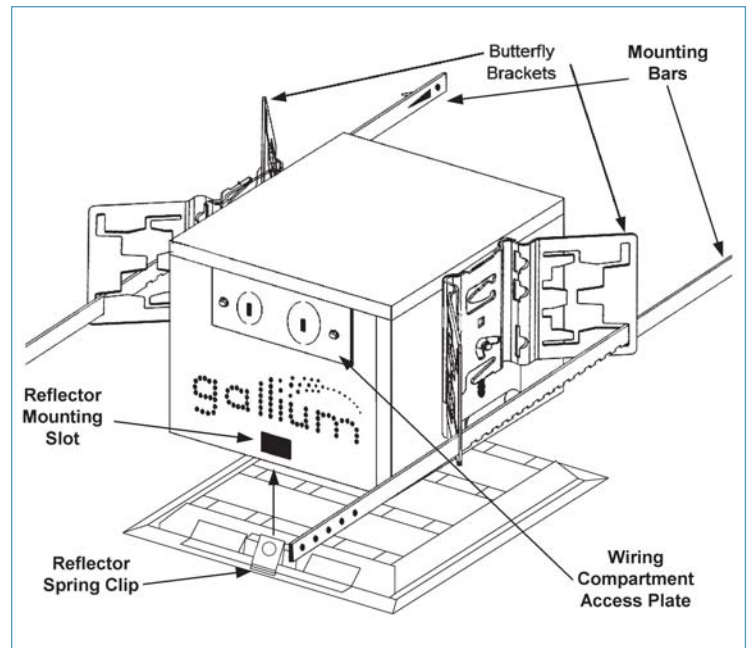

Figure 1: Gallium GS6 Series mounting hardware.
- Install the fixture into the ceiling by sliding *mounting bars* (GBH-1246, or by others) into the appropriate slot on the *butterfly brackets* (see *Figure 1*).
- Remove the *wiring compartment access plate* located on outside of fixture. Pull the LED driver lead wires out of the wiring compartment (see *Figure 1*).
- Install reflector by positioning the two *reflector spring clips* into the *reflector mounting slots* provided in the housing (see *Figure 1*).